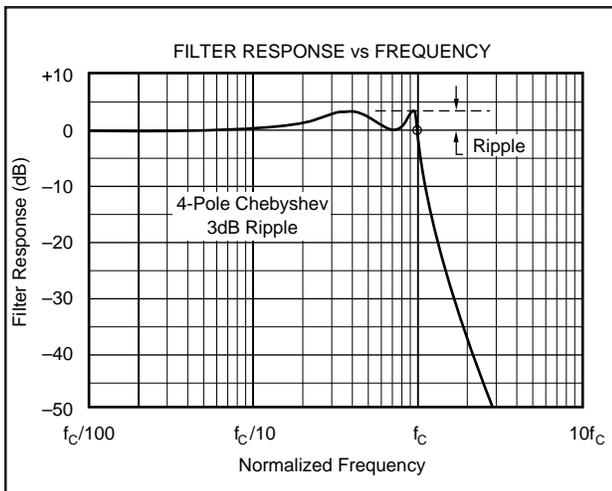
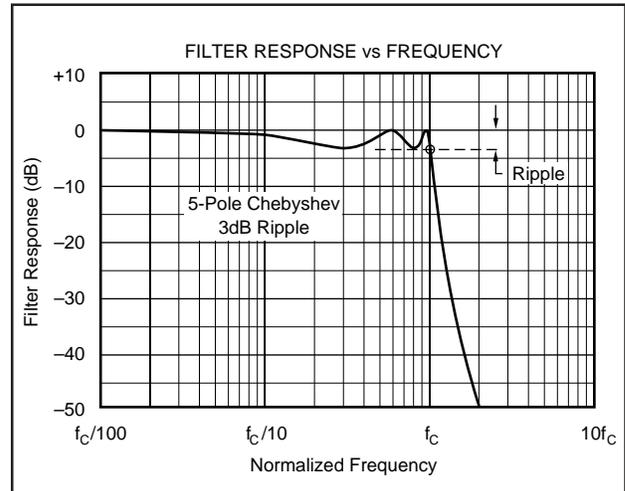

FIGURE 1a. Response vs Frequency of Even-Order (4-pole), 3dB-Ripple Chebyshev Filter Showing Cutoff at  $0\text{dB}$ .
FIGURE 1b. Response vs Frequency of Odd-Order (5-pole), 3dB-Ripple Chebyshev Filter Showing Cutoff at  $-3\text{dB}$ .
**Chebyshev**—equal ripple magnitude. (Sometimes translated Tschebyscheff or Tchevysheff). This filter response has steeper attenuation above the cutoff frequency than Butterworth. This advantage comes at the penalty of amplitude variation (ripple) in the pass-band. Unlike Butterworth and Bessel responses, which have  $3\text{dB}$  attenuation at the cutoff frequency, Chebyshev cutoff frequency is defined as the frequency at which the response falls below the ripple band. For even-order filters, all ripple is above the  $0\text{dB}$  DC response, so cutoff is at  $0\text{dB}$ —see Figure 1a. For odd-order filters, all ripple is below the  $0\text{dB}$  DC response, so cutoff is at  $-(\text{ripple})\text{dB}$ —see Figure 1b. For a given number of poles, a steeper cutoff can be achieved by allowing more pass-band ripple. The Chebyshev has even more ringing in its pulse response than the Butterworth.